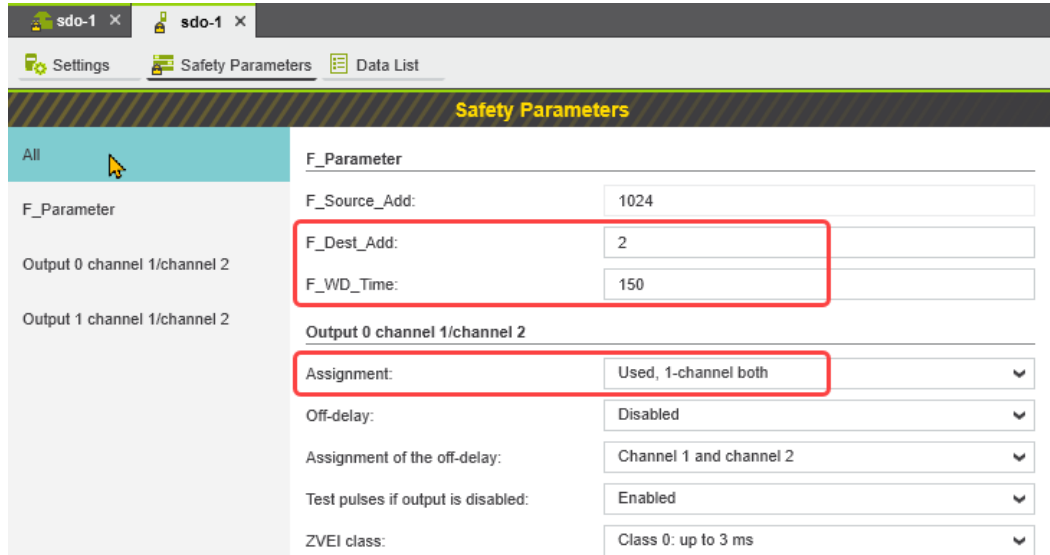

Figure 6-28 “Safety Parameters” editor: AXL SE PSDO4/2 2A
- Under the “Profinet (x)” node in the “PLANT” area, double-click on the lower-level node of the safety module whose safety parameters you want to set (in the example in Figure 6-28: AXL SE PSDO4/2 2A).